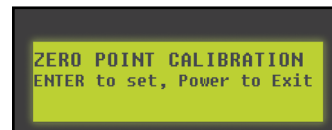

Fig.27
3. With the touch pad off, press and release the "FRONT" button ten (10) times and then press and release the "REAR" button ten (10) times.
4. The touch pad will flash and beep and the display will read "ZERO POINT CALIBRATION ENTER to set, Power to Exit" (Fig.27).